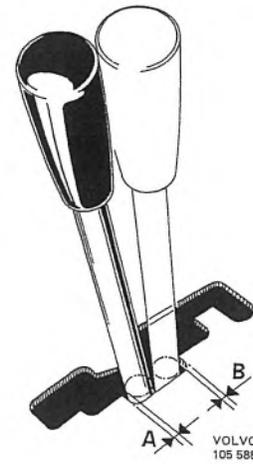

Fig. 4-62. Adjusting selector controls
4. Check the adjustment. This is done by checking the distances to the inhibitor plate in "N" and "D" position (A and B, Fig. 4-62). The clearance should be the same for both positions. If necessary, alter the length of the control rod.